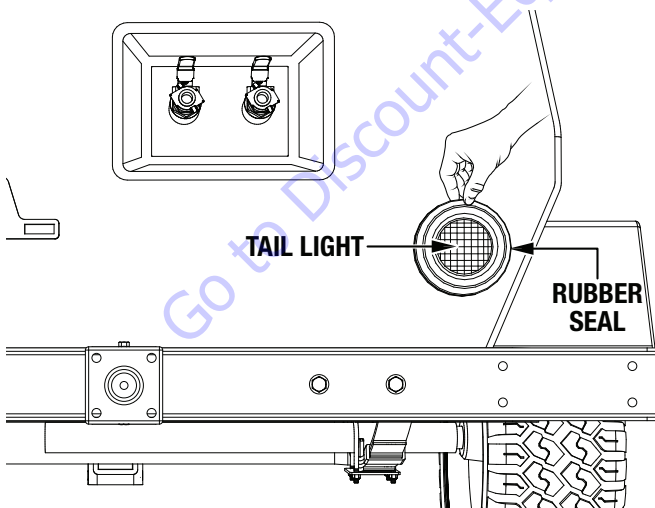

Figure 7. Tail Light Removal
- Remove by hand the rubber seal securing the tail light (Figure 7) **on the fuel tank side** of the air compressor. Disconnect the tail light and set it and the rubber seal aside.